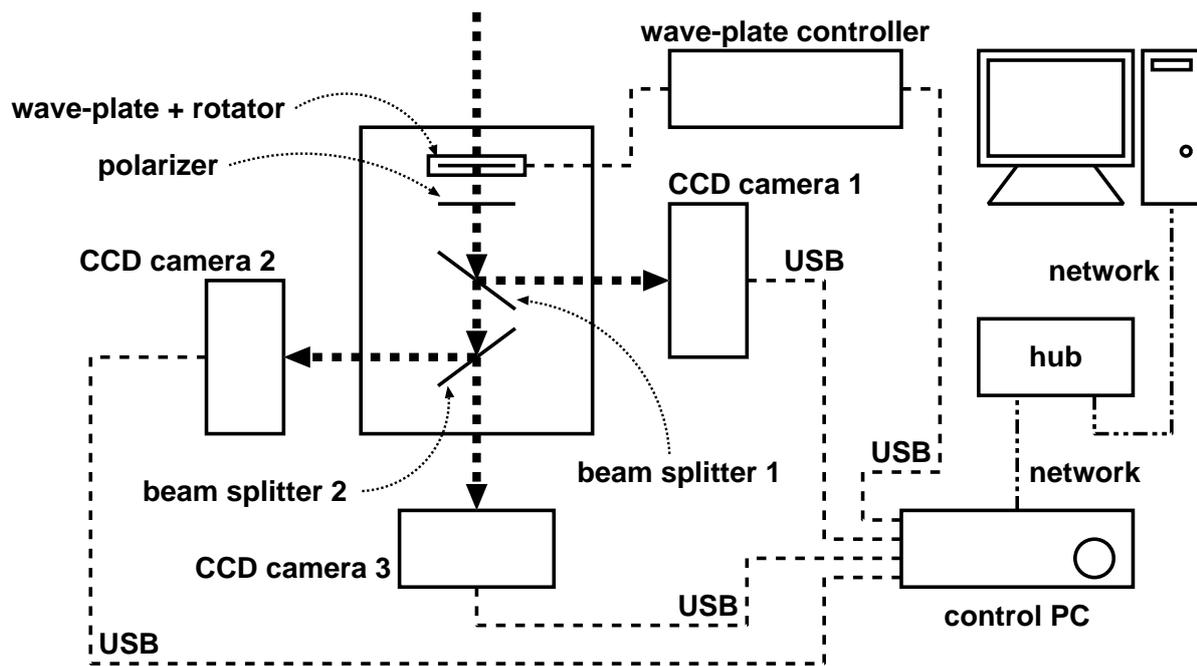
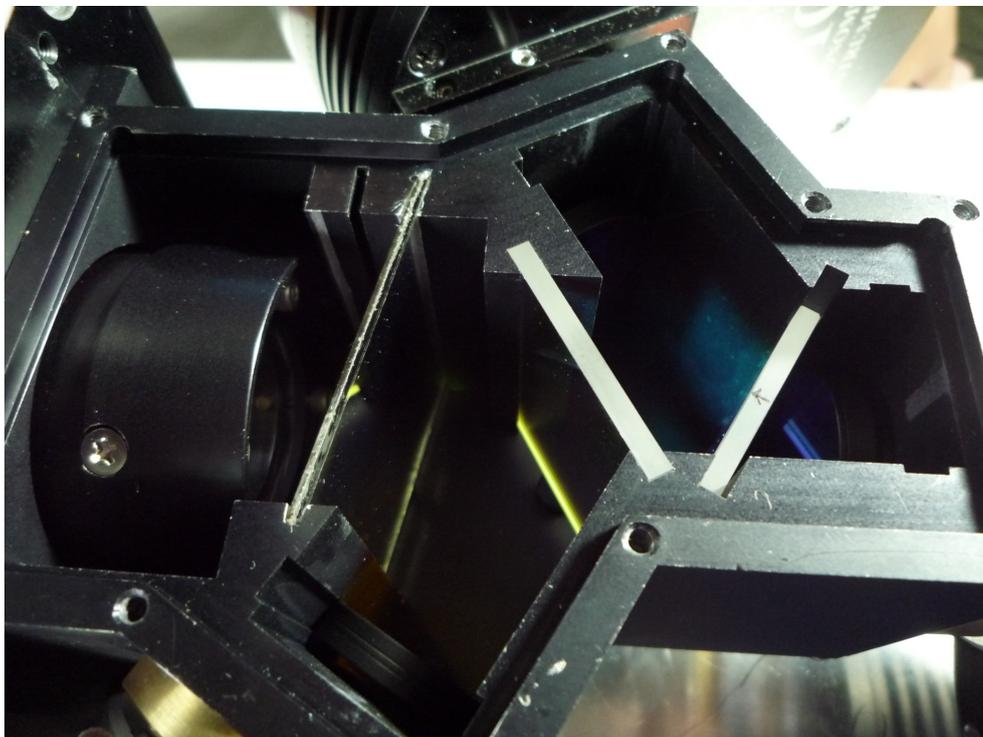

Figure 1: The structure of TRIPOL system.
Figure 2: Optical devices in TRIPOL. The photo was taken by Tse-Chuan.
The structure of TRIPOL system is shown in Fig. 1. Fig. 2 shows the optical components in the main body of TRIPOL. We need to (1) connect each component via cables, and (2) plug power-plugs.